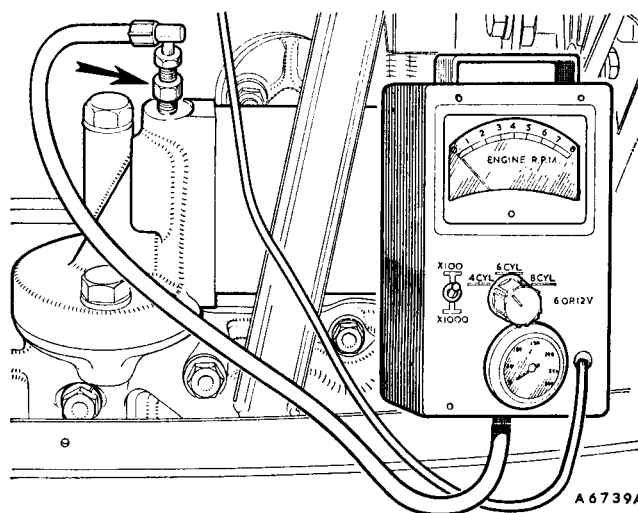

Fig. Fa.6
2. Remove the pressure point plug on the engine oil filter, fit Service tool adaptor 18G 677 C, and connect Service tool 18G 677 Z (see Fig. Fa.6) or use pressure gauge (Service tool 18G 502 A with pipe and adaptor 18G 502 K).
6. Connect a suitable tachometer or that of Service tool 18G 677 or 18G 677 Z (see Fig. Fa.6).